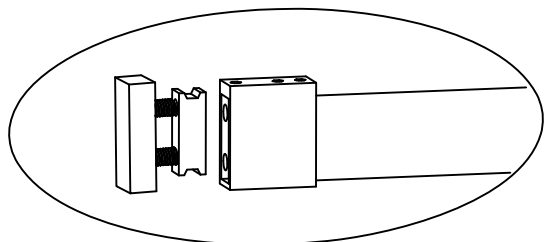

Fig. 11
12. Next assemble the stainless steel fitting and glass connector parts to top holes in Return Glass Panel (23). The stainless steel fitting should be positioned to the inside of Return Glass Panel (23) when complete. See Fig.11 for details